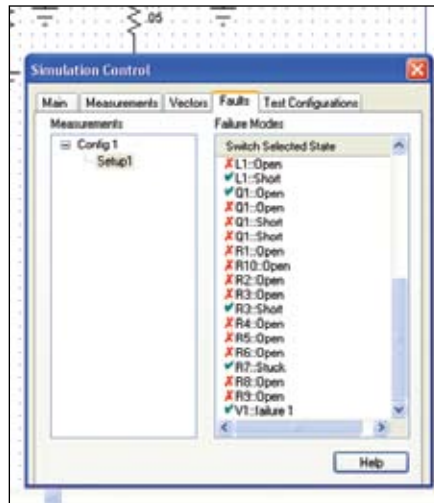
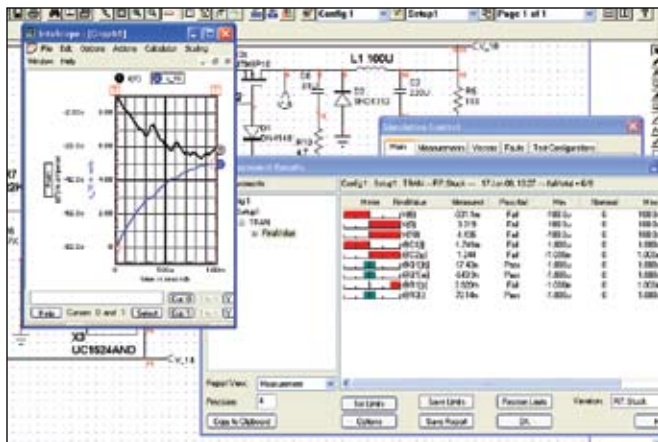

Fig. 4. Four new faults are added to the list. Simulations will automatically include the five faults.
Fig. 5. Multiple faults simulated with R7 stuck-at selected, which affects the measured readings toward the left.
Multiple faults enabled for simulation appear in **Fig. 4**. Note that four new faults were enabled (Q1 open, R7 stuck at 1 kΩ, R3 short and source V1 stuck at 4.9 V). **Fig. 5** shows the simulation results, with display waveforms, pass/fail status and measured results.
Selected for analysis are all five fault selections enabled in **Fig. 5**, and the R7 stuck-at condition. After simulation, the
Next, observe that a detailed breakout of the devices and signals is on the left of the dialog, just under the shaded final-value text. Selecting one of these entities causes the instant display of the corresponding measurement and pass/fail conditions on the right for all five fault conditions. Both ways of displaying measurements and pass/fail status (selecting all devices and signals as a collective group as shown in **Fig. 5**, or selecting individual ones to display data from all enabled faults) provide a fast what-if analysis of how faults affect critical devices and signal lines. The simulation waveforms show the current through R7 and voltage on signal V(18) atop of the design. Such waveforms also can be displayed in real time during fault runs.